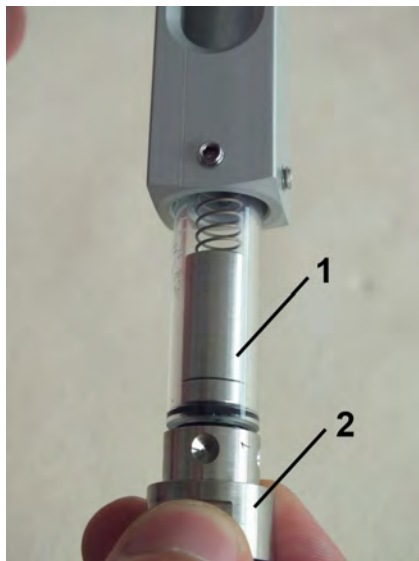

Fig. 37: Remove the inner parts
4. → Carefully remove the inner parts (Fig. 37/1) of the device (sight glass, spring and float) as a unit together with the process connection (inlet) (Fig. 37/2) from the device body.